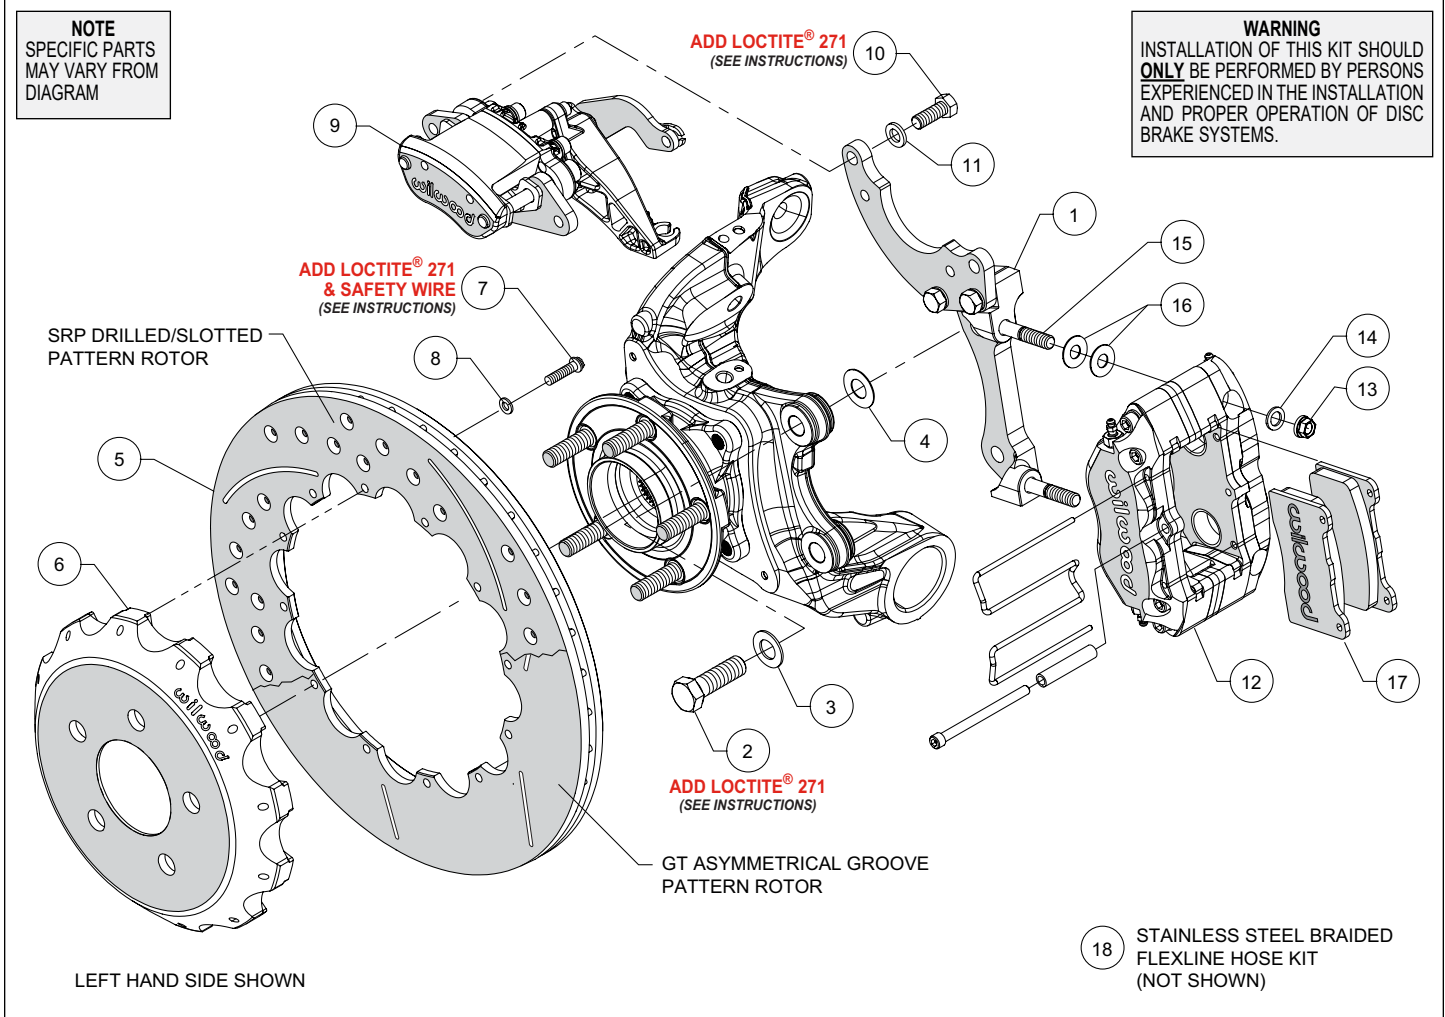
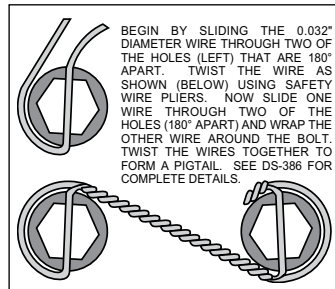

Figure 1. Typical Installation Configuration
Figure 3. Safety Wire Diagram
**NOTE:** Numbers in parenthesis refer to the parts list and Figure 1 on the preceding pages.
- The caliper mount bracket (1) should initially be installed with clean, dry threads on the mounting bolts. Orient the bracket as shown in Figure 1, and Photo 1, and install using bolts (2) and washers (3). Initially place one .029" thick shim (4) on each bolt between the bracket and upright, Figure 1. Temporarily tighten the mounting bolts. **NOTE:** The bracket must fit squarely against the mount bosses on the upright. Inspect for interference from casting irregularities, machining ridges, burrs, etc. Later, after the caliper alignment has been checked, the mount bolts will be secured using red *Loctite*® 271.
- Orient the rotor (5) and the hat (6) as shown in Figure 1 and Photo 2. Attach rotor to hat using bolts (7) and washers (8). Apply red *Loctite*® 271 to the bolt threads and torque to 155 in-lbs using a criss-cross pattern. For an added measure of security, the bolts may be safety wired using standard 0.032 inch diameter stainless steel safety wire as shown in Figure 3. Please refer to Wilwood's data sheet DS-386 (available at [www.wilwood.com/Pdf/DataSheets/ds386.pdf](http://www.wilwood.com/Pdf/DataSheets/ds386.pdf)) for complete safety wire installation instructions.
- Initially place two .035" thick shims (16) on each stud as shown in Figure 1 and Photo 4. Mount the caliper (12) onto the bracket (1) using lock nuts (13) and washers (14), Figure 1. Temporarily tighten the lock nuts and view the rotor through the top opening of the caliper. The rotor should be centered in the caliper, Photo 5. If not, adjust by adding or subtracting shims (4) between the bracket and the mounting bosses. Always use the same amount of shims on each of the two mounting bolts. Once the caliper alignment is correct, remove the bracket mounting bolts one at a time, apply red *Loctite*® 271 to the threads, and torque to 77 ft-lb.
- Insert the brake pads (17) into the caliper with the friction material facing the rotor (5), as shown in Figure 1 and Photo 6. Check that the top of the brake pad is flush with the outside diameter of the rotor, Photo 7. If not, adjust by adding or subtracting shims (16) between the caliper and the bracket. After the caliper pad height is set, torque the caliper lock nuts (13) to 30 ft-lb. Secure the pads in place using the pad clip retainer as well as the center bridge pad retainer tube and bolt, Photo 8. The bolt should be snug without play in the tube. Be cautious not to over tighten.
- Mount the parking brake caliper (9) onto the top section of the caliper mounting bracket (1) using bolts (10) and washers (11), as shown in Figure 1 and Photo 9. Apply red *Loctite*® 271 to bolt threads, and torque to 30 ft-lb